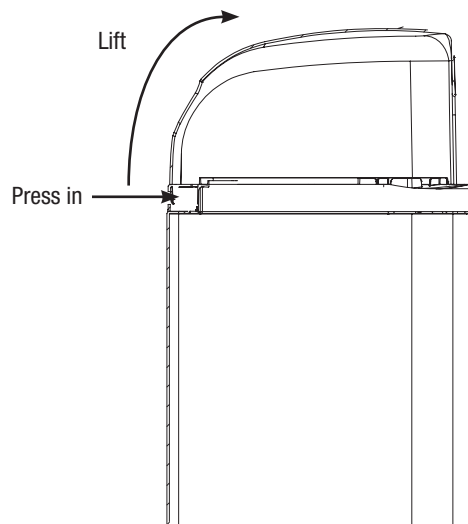

Figure 4
3. Remove cover by pressing in on the latch and lifting cover (Figure 4). When the cover is removed, the valve is visible. Remove the remote salt detector and the power adapter. They should be secured to the tank collar near the inlet/outlet connections.